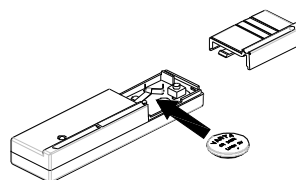

FIGURE 4
1) Once the transmitter unit and magnet are fixed in place slide 1 x CR2032-size 3V battery into to the battery compartment with the positive side (+) facing upwards (FIGURE 4).